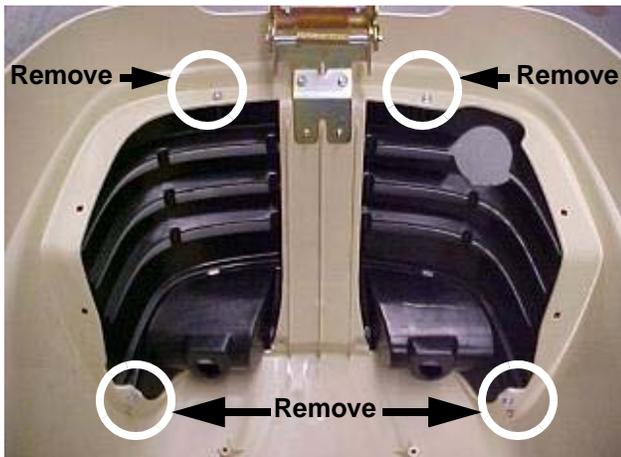

FIGURE 3
7. Set the hood upside down & remove the (4) four screws that secure the grill assembly to the hood. See Figure 3. **NOTE:** Be careful not to damage the grill assembly. It will be used for reassembly in the new hood.
3. Install the grille assembly to the new hood. Secure with the (4) four original screws removed in step 7 of the Removal instruction section. Refer to Figure 3 for location reference. Tighten but DO NOT over tighten.